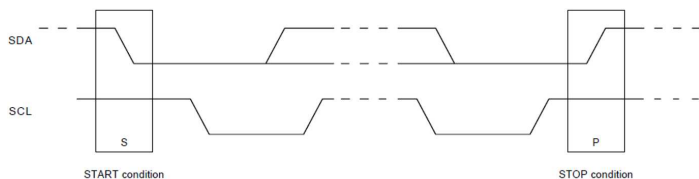

Figure 3: I2C Start and Stop Conditions
**Start Condition** - The master initiates data transfer by generating a start condition. The start condition is when a high-to-low transition occurs on the SDA line while SCL is high, as shown in Figure 3.
**Stop Condition** – To signal the end of the data transfer, the master generates a stop condition by pulling the SDA line from low to high while the SCL line is high, as shown in Figure 3.